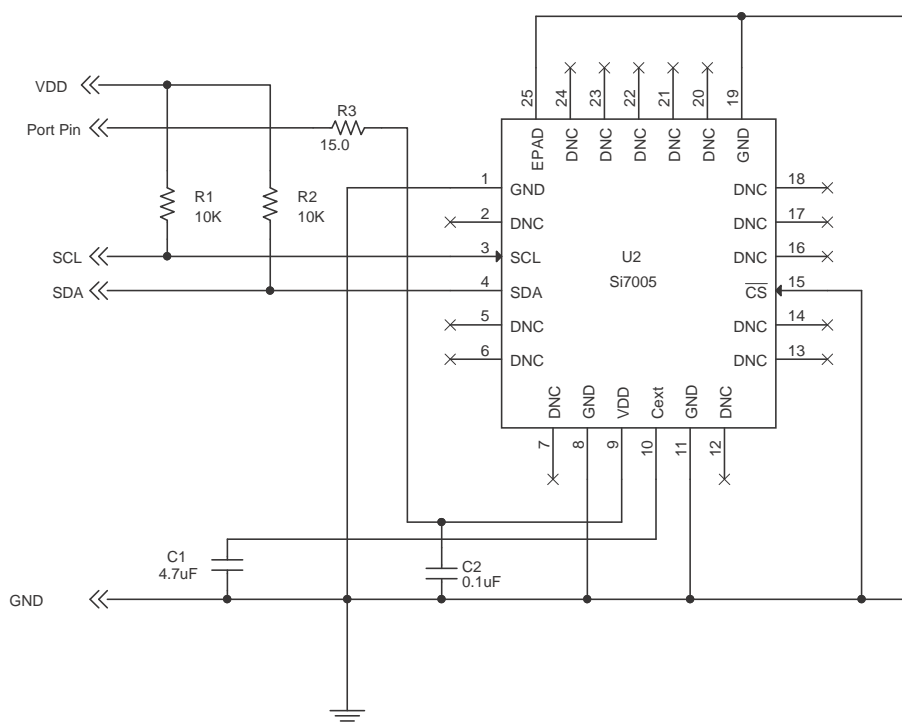
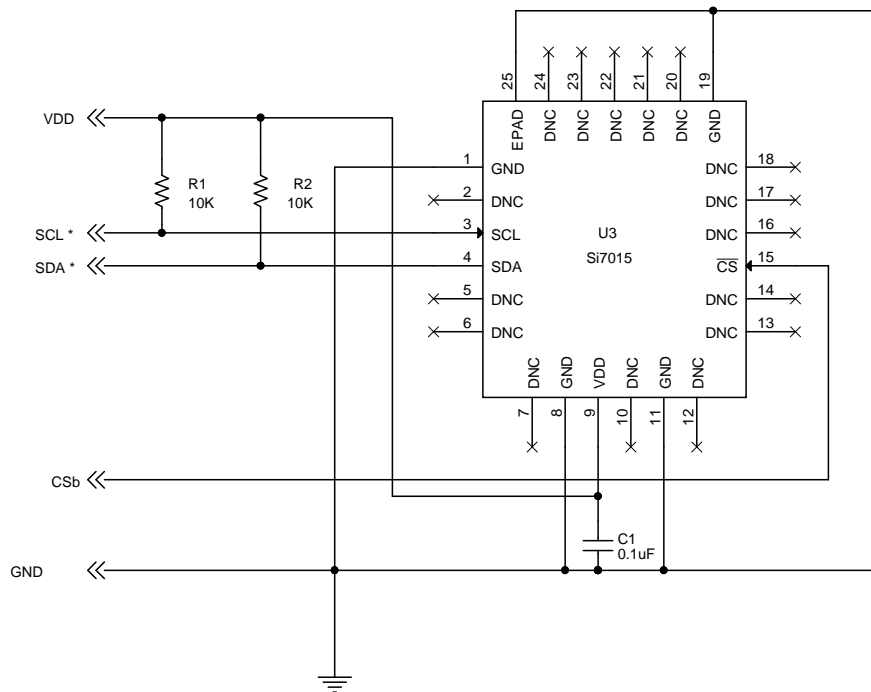

Figure 1. Typical Si7005 Application Circuit for Battery-Powered Applications
Figure 2. Typical Si7015 Application Circuit for Battery-Powered Applications
- The bypass capacitor that supports the Si7005's on-chip linear regulator, C1 in Figure 1, is no longer required, but it can be left in place if desired.
- The SDA and SCL pins of the Si7015 may not be driven to voltages above V_{DD}. Switching V_{DD} low was possible with the Si7005, as shown in Figure 1. With the Si7015, switching V_{DD} low with SDA SCL high is not possible, so it should be connected as shown in Figure 2. Because the Si7015's standby power consumption is exceptionally low, it is not necessary to switch V_{DD} off to save power.
In Figure 2, Pin 10 is internally connected but can have a capacitor to ground. \overline{CS} can be tied to ground, and I^2C commands can be used to put the part in low-power mode.